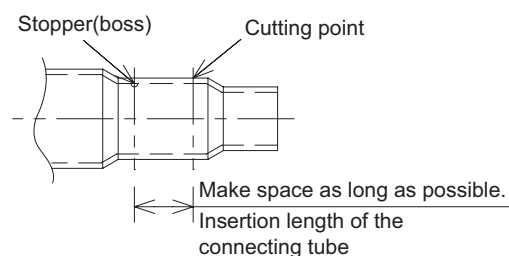

Fig. 2-7-8
- Cut off as far away from stopper as possible. (Fig. 2-7-8)